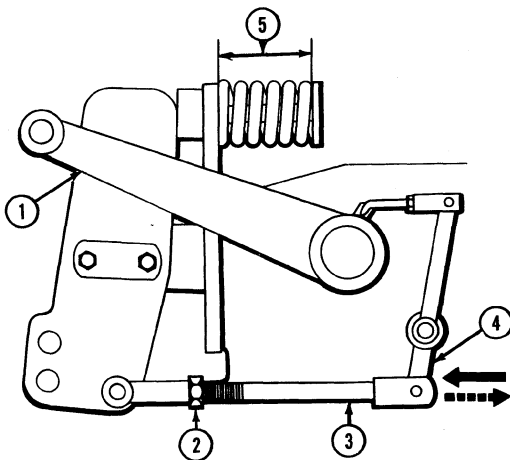

Figure 34
3. Adjusting the Draft Control Linkage (Figure 34)